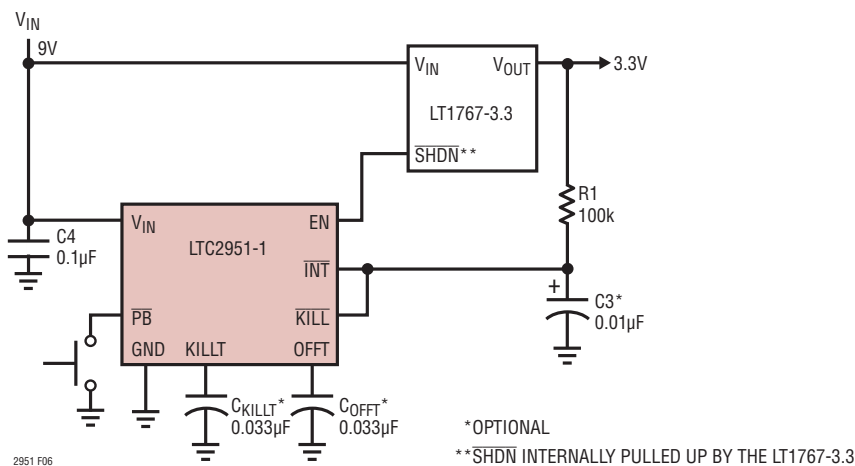

Figure 6. No  $\mu\text{P}$  Application
**$\overline{KILL}$  (Pin 8/Pin 5):**  $\overline{KILL}$  Input. Forcing  $\overline{KILL}$  low releases the enable output. During system turn-on, this pin is blanked by a 512ms internal timer ( $t_{\overline{KILL}, ON BLANK}$ ) to allow the system to pull  $\overline{KILL}$  high. This pin has an accurate 0.6V threshold and can be used as a voltage monitor input. If unused, connect to a low voltage output supply (see Figure 6).
Figure 6 shows how to connect the  $\overline{\text{KILL}}$  pin when there is no circuitry available to drive it. The minimum pulse width detected is 30 $\mu\text{s}$ . If there are glitches on the resistor pull-up voltage that are wider than 30 $\mu\text{s}$  and transition below 0.6V, then an appropriate bypass capacitor should be connected to the  $\overline{\text{KILL}}$  pin.